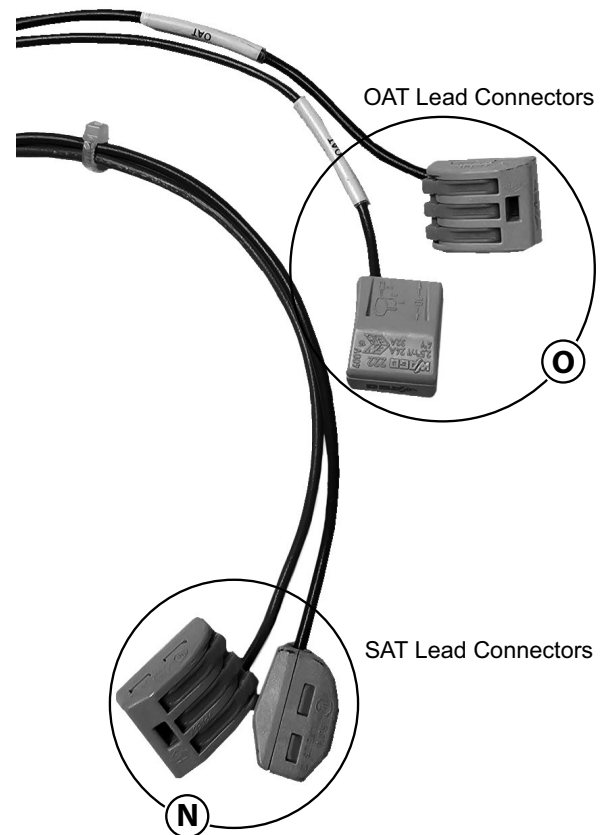

Fig. 20 — SAT and OAT Lead Connectors
2. Locate the SAT and OAT leads from the harness. See Fig. 20.